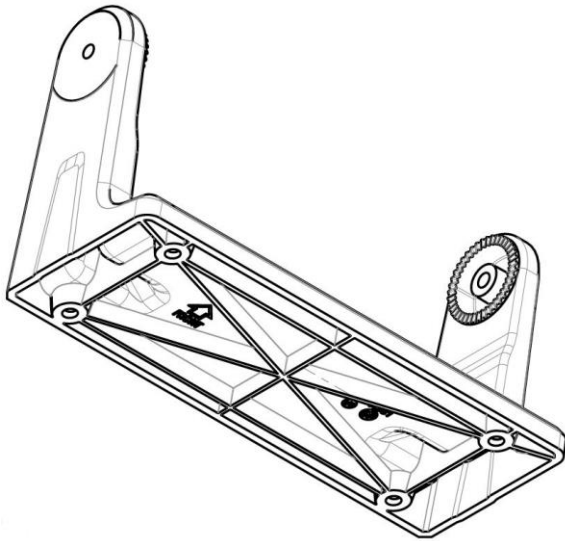
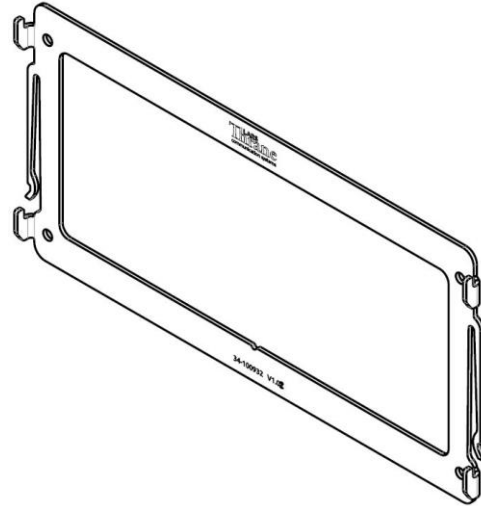

Figure 4: Bracket Mount, Control Unit.
Figure 5: Flush Mount, Control Unit.
**NOTE:** The LT-3110 Control Unit must be mounted with either the Bracket Mount, Control Unit (P/N: 91-100771) or Flush Mount, Control Unit (P/N: 91-100772) - illustrated in Figure 4 and Figure 5. The Flush Mount, Control Unit is not included in the LT-3100 Satellite Communications System – Basic (P/N: 90-101142) and must be ordered separately.
The Bracket Mount and Flush Mount for the LT-3110 Control Unit are illustrated in Figure 4 and Figure 5.